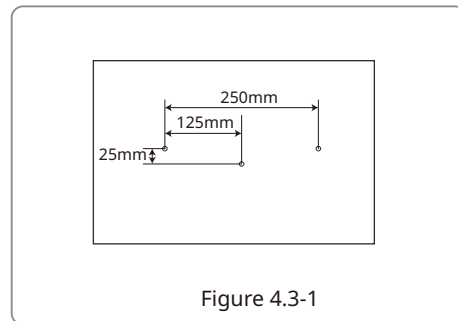

Figure 4.3-1
1. Drill holes in the wall with a diameter of 8mm and a depth of 45mm. The spacing of the holes is shown in Figure 4.3-1.